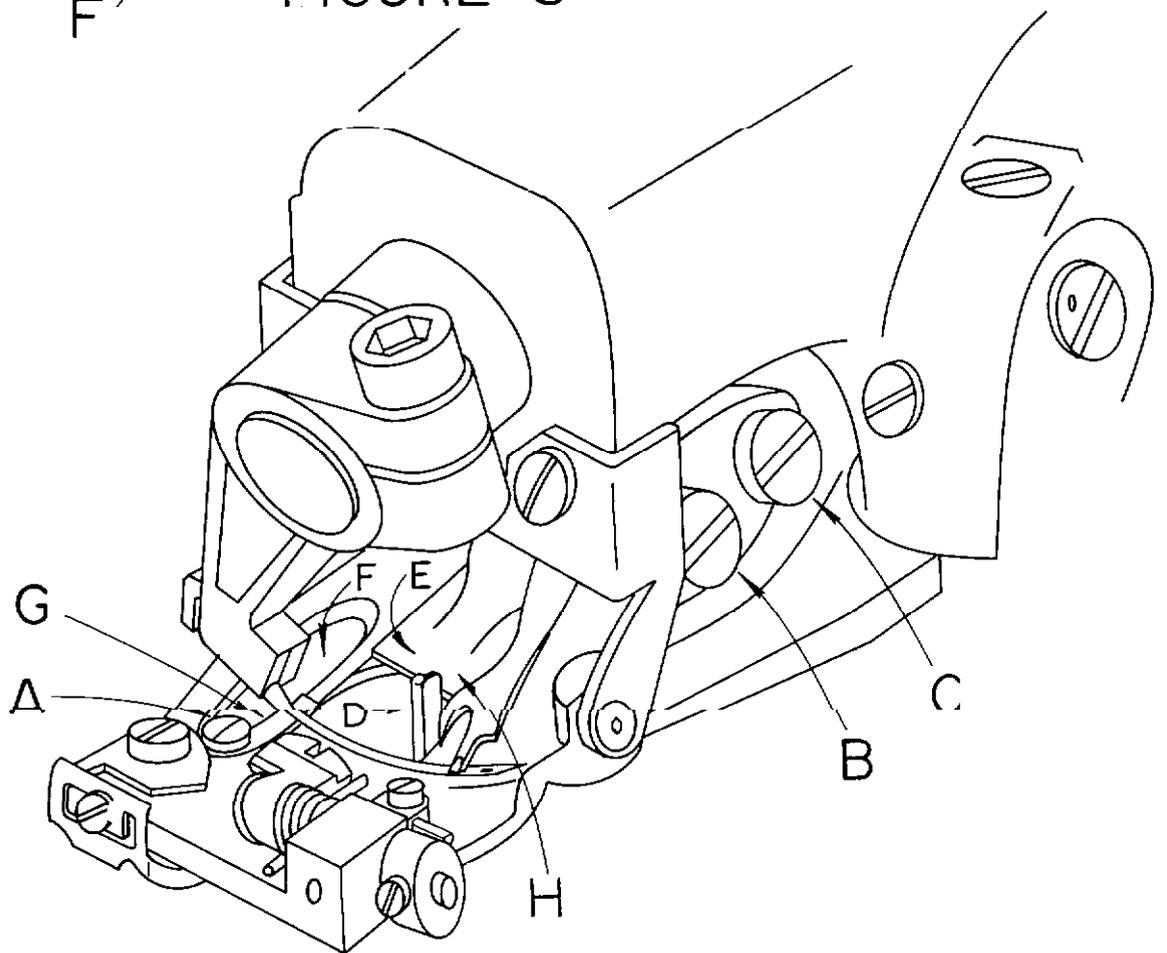
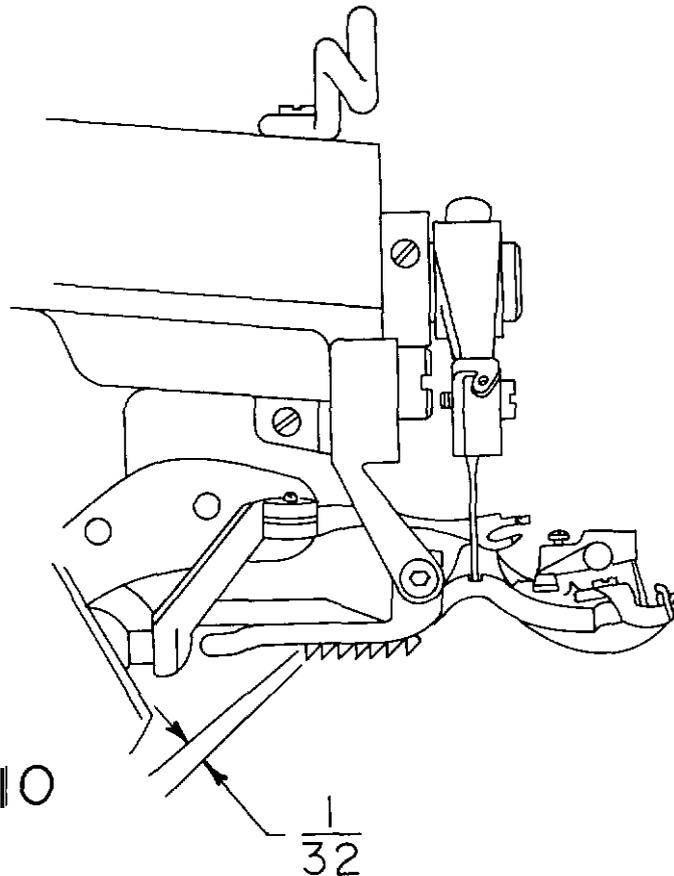

FIGURE 9
FIGURE 10
9. After all the necessary adjustments have been made, tighten all set screws and the lock nut and recheck all the adjustment points. Referring to Figure 9, the looper should now clear the chain-off pin ("D"), feeder ("E"), looper slot ("F"), needle, and pass over the needle in the correct position to pick up the loop.
1. After considerable service, it may be expected that the wearing action of the needle will cause a sharp edged groove to form on the needle guide (item "G" in Figure 9).
2. Loosen the needle guide attaching screw (item "A" in Figure 9) and remove the worn needle guide. Clear out any lint or dirt that may have accumulated under the old guide and insert the new guide. Insure that the new guide is seated flush with the top and side of the presserfoot and then retighten the attaching screw. Slowly turn the handwheel in the direction away from the operator and check to insure that the new guide fits properly under the needle and that no interference has been introduced between the guide and the looper.
1. In the event that the machine develops difficulty by failing to properly feed the work, a worn feeder is frequently found to be the cause. After considerable service, especially with certain hard fabrics, the feeder teeth have a tendency to become dull, and the feeder should be replaced. In order to remove the old feeder, remove the front feeder attaching screw (item "B" in Figure 9) and loosen the rear feeder attaching screw (item "C" in Figure 9). The old feeder may then be slid out of place. Insert the new feeder under the rear screw and replace the front screw.
2. Before tightening the attaching screws check to see that the feeder is set to the proper depth. Referring to Figure 10 this should be approximately  $\frac{1}{32}$ " (.795mm) below and parallel to the bottom of the presserfoot for all light and medium weight fabrics. For heavy fabrics, the setting should be approximately  $\frac{1}{16}$ " (1 .59mm) below and parallel to the bottom of the presserfoot. These dimensions are intended as guides and may be modified as required by the specific fabrics. Once the proper depth is established, rotate the handwheel slowly in a direction away from the operator and check to insure that the feeder clears the looper (see Figure 9, Point "H") and also clears both sides of the feeder slot in the presserfoot. Firmly tighten feeder attaching screws (Figure 9, Items "B" & "C") before resuming sewing.